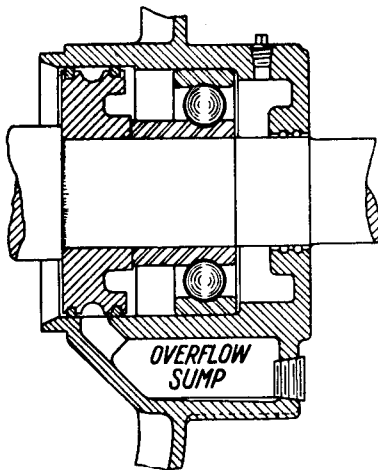

FIG. 3—BEARING HOUSING EQUIPPED WITH OVERFLOW GREASE SUMP.
3. When surplus grease sump below bearing is supplied, this should be kept empty at all times. Pipe plug openings are provided at lower outside end of the bearing housings through which the excess grease may be removed. See Fig. 3. By adding grease at intervals and allowing the excess to escape into the surplus grease sump, damage to bearings from deteriorated grease will be prevented and